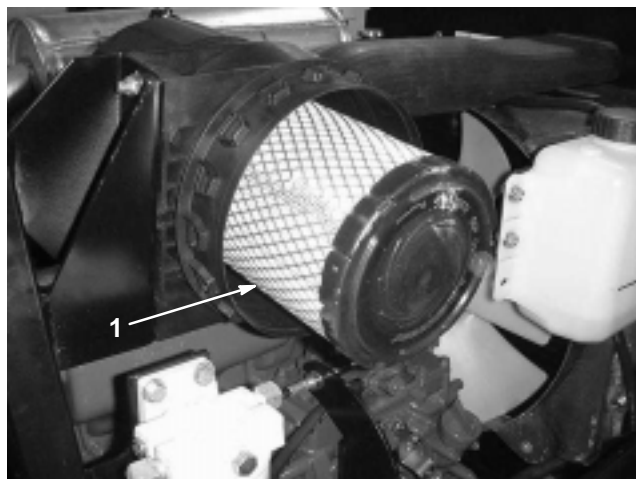
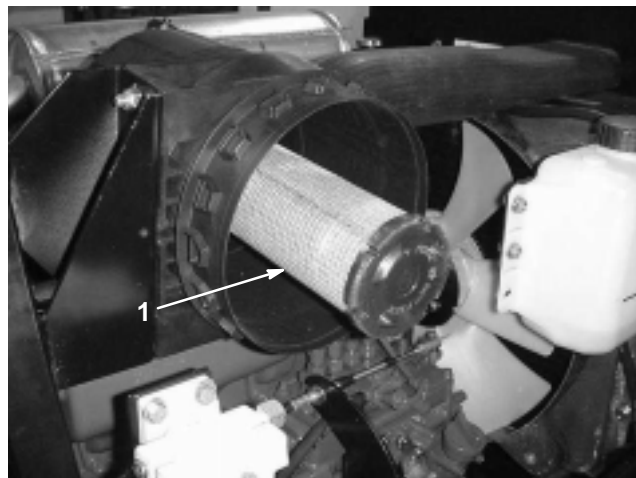

Figure 25
Figure 26
2. Gently slide the primary filter (Fig. 25) out of the air cleaner body to reduce the amount of dust dislodged. Avoid knocking the filter against the air cleaner body. **Do not** remove the safety filter (Fig. 26).
Important Never attempt to clean the safety filter (Fig. 26). Replace the safety filter with a new one after every three primary filter services.